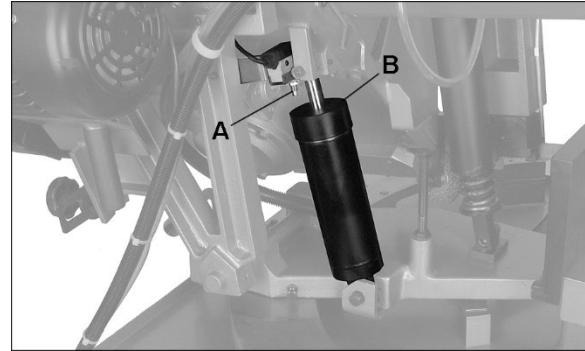

Figure 9-1: auto shut-off switch
The machine and any accessories which are wired into the electrical system are controlled by the start-stop buttons. Saw will automatically shut off when cut is completed. The limit switch (A, Figure 9-1), contacts top of hydraulic cylinder (B) and deactivates motor.